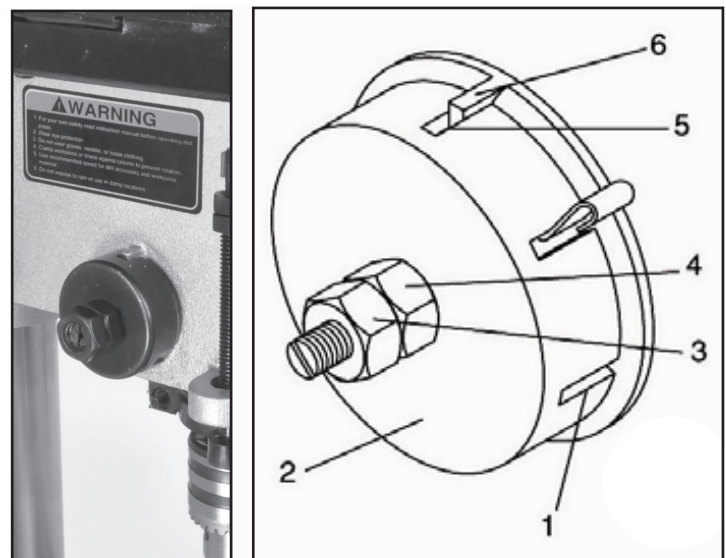

FIG. 10
- C. Carefully turn the spring cap (2) counterclockwise with the screwdriver, engaging the next notch. FIG. 10.
- D. Lower the spindle to the lowest position while holding the spring cap (2) in position.
(4) with a wrench. If too loose, repeat steps 2 through 4 to tighten. If too tight, reverse steps 3 and 4. **DO NOT OVERTIGHTEN** as this will restrict the spindle movement.
- F. Replace the outer nut (3) and tighten it against the inner nut (4) to prevent the inner nut from reversing.